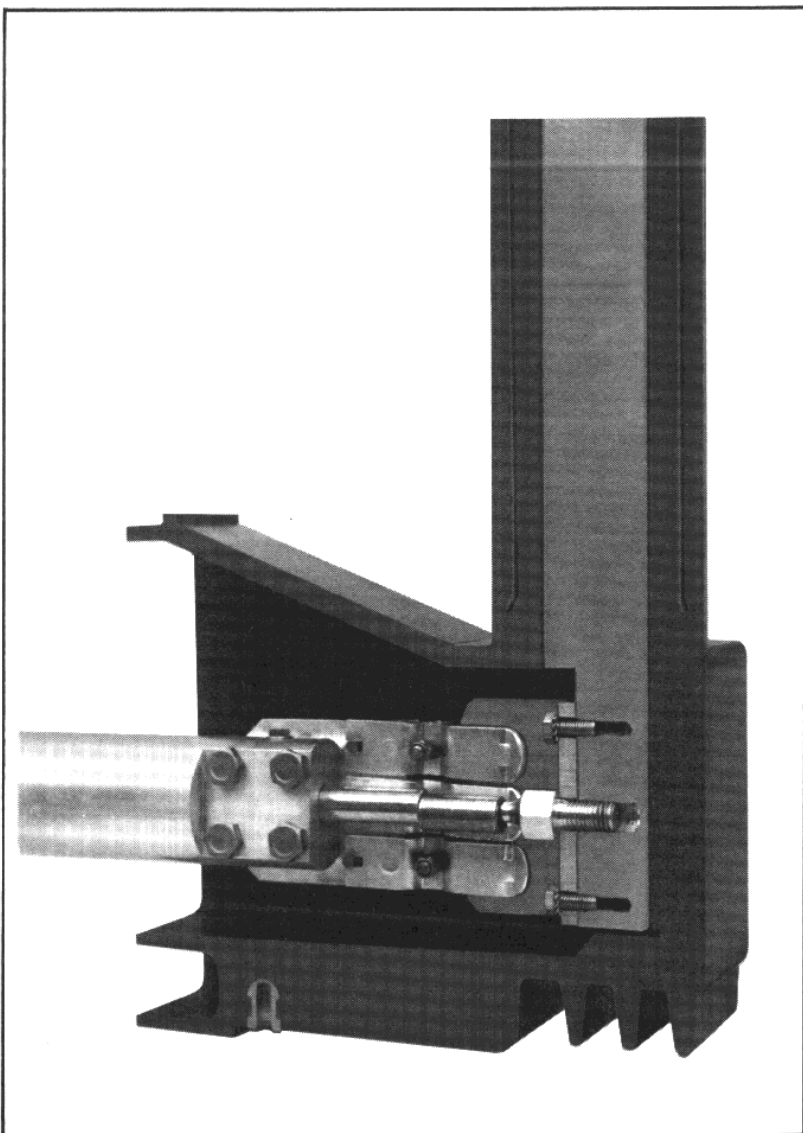

Figure 1-2.
1.2.1 Main Disconnecting Contacts (Figure 1-2)
The HV stationary main disconnecting contacts (Fig. 1-2) are located within a cast epoxy bell mounted directly behind the steel shutters at the rear of the breaker compartment.